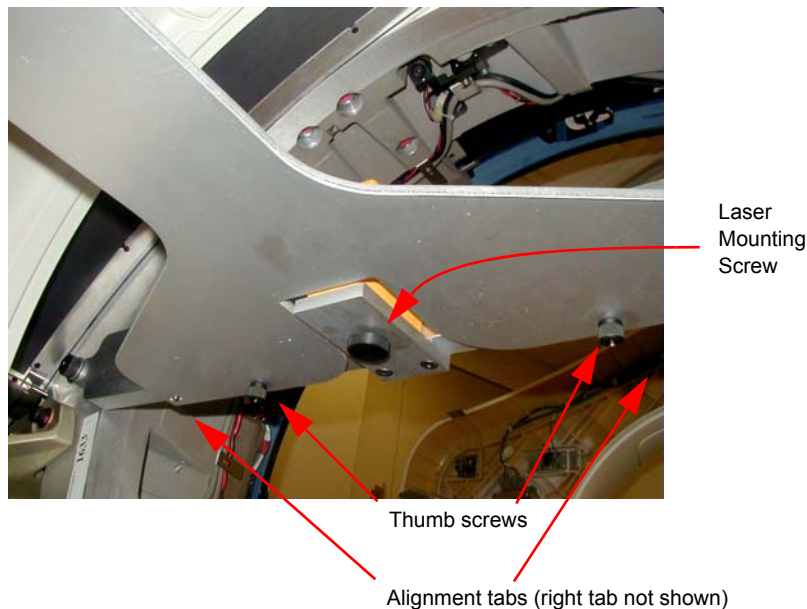

Figure 1-22 Attach Laser Center Plate
- 7.) Attach the laser centering plate onto the laser mounting bar as shown in Figure 1-22. The plate is attached from under the alignment bar using two fixed locators and two thumb screws.
- 4.) Locate the table leveling pads inside the table in the back and on the side in the front. Preset leveling pad heights to 5/8" (15.5mm). (See Figure 1-22.)